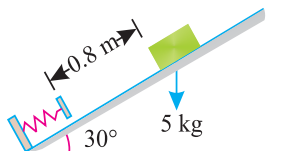

Fig. 30.13
5. A block of mass 5 kg is released from rest on an inclined plane as shown in Fig. 30.13.